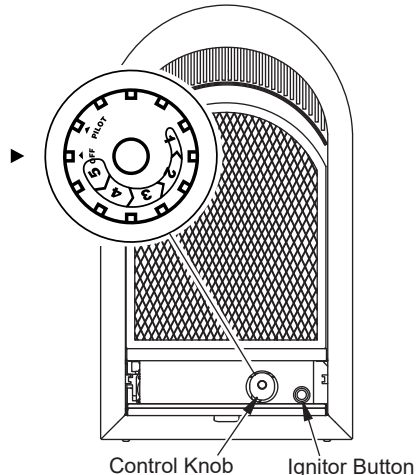

Figure 21 - Control Knob in the OFF Position
5. Wait five (5) minutes to clear out any gas. Then smell for gas around heater and near the floor. If you smell gas, STOP! Follow "B" in the safety information above. If you do not smell gas, go to the next step.
6. Turn control knob counterclockwise  to the PILOT position. Press in control knob for five (5) seconds (see Figure 21).